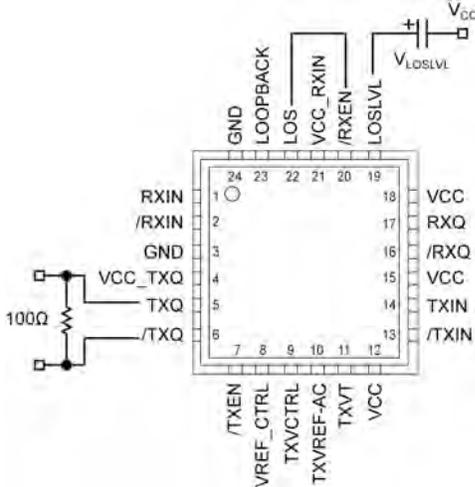

Figure 2a. Voltage Source Implementation
The SY58621L features a chatter-free Loss-of-Signal (LOS) TTL compatible output with an internal 4.75kΩ pull-up resistor. LOS circuitry monitors the input receiver signal and asserts a signal when the input signal falls below the threshold set by the programmable LOS level set pin (LOSLVL). When the amplitude of the receiver input signal falls below the threshold, LOS is asserted HIGH with a response time of ~0.2μs. LOS can be fed into /RXEN to maintain output stability by disabling the output during a Loss-of-Signal condition. Figure 2a and 2b shows the LOS connection to /RXEN. When /RXEN is HIGH, the output signal RXQ is held LOW and /RXQ is held HIGH. Typically, 2dB of LOS hysteresis is adequate to prevent the receiver output from chattering. LOS operation is optimized for data rates ≥ 622 Mbps with an input receiver amplitude of at least 10mV (20mV_{PP}). Due to the long time constant in slower data rates below 622Mbps, the SY58621L LOS function does not guarantee chatter-free operation for low amplitude signals.
LOS detection trip-point by setting up a voltage divider between VCC and VREF (an internal voltage source set at VCC-1.3V), since there is a 2.8kΩ internal resistor connected between LOSLVL and VREF. The input voltage range of LOSLVL ranges from VCC to VREF. See the “Functional Block Diagram” section and Figures 2a and 2b, to see how R_LOSLVL sets up a voltage divider between VCC and VREF. See the “LOS Output DC Electrical Characteristics” table and “Typical Operating Characteristics” section to see how different R_LOSLVL values affect LOS sensitivity.
- Connecting the input /RXEN to the LOS output as shown in Figures 2a and 2b, maintains receiver output stability under a Loss-of-Signal condition